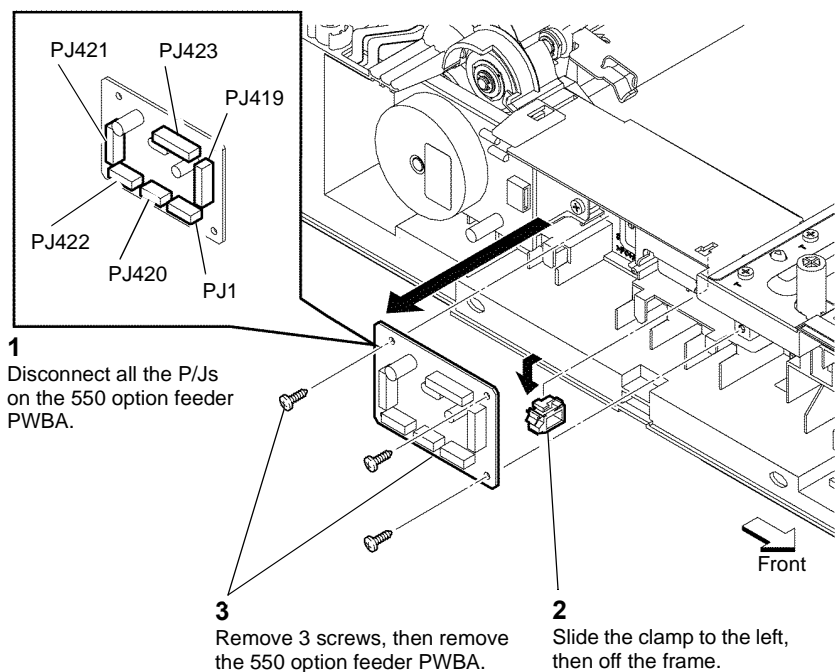

Figure 1 550 Option feeder PWBA
3. Remove the 550 option feeder PWBA, Figure 1.